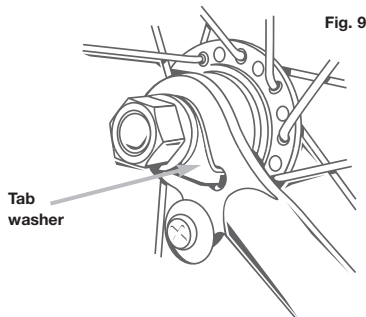

Fig. 9
- 1 The clip-on type is an oval washer with a tab, (fig. 9) which the manufacturer adds to the front wheel hub. The tabs must be located in the holes or slots at the ends of the fork legs, before tightening the wheel nuts.